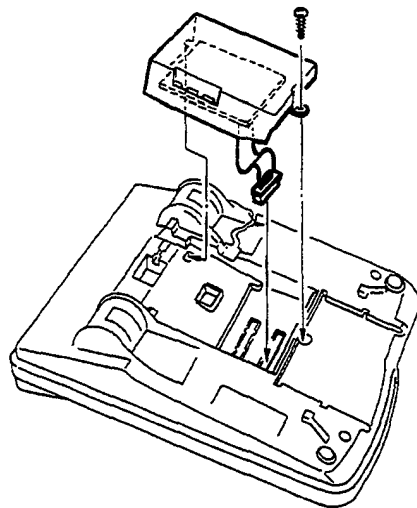

Figure 1-81 ADA(1)-W (BK)/(SW) Unit or ADA(2)-W (BK)/(SW) Unit Installation
4. Plug the CN1 connector from the ADA(1)-W (BK)/(SW) Unit or ADA(2)-W (BK)/(SW) Unit, in the CN4 jack on the Main Board. Refer to Figure 1-81 - ADA(1)-W (BK)/(SW) Unit or ADA(2)-W (BK)/(SW) Unit Installation and Table 1-26 - ADA(1)-W (BK)/(SW) Unit or ADA(2)-W (BK)/(SW) Unit Cable Connection.
5. Mount the ADA(1)-W (BK)/(SW) Unit or ADA(2)-W (BK)/(SW) Unit into the Multiline Terminal using the screw provided (component side down). Refer to Figure 1-81 - ADA(1)-W (BK)/(SW) Unit or ADA(2)-W (BK)/(SW) Unit Installation.